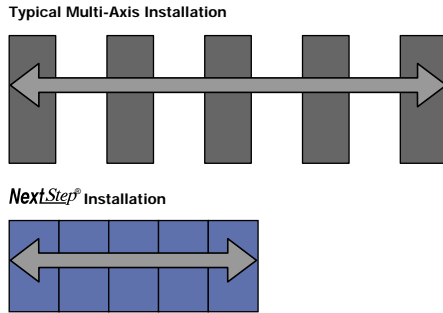

Figure 1. The latest technology in power electronics allows multiple NextStep® drives to be mounted side-by-side for the most efficient use of panel space.
- The NextStep®'s efficient design allows it to be stacked together dramatically reducing panel space (see Figure 1)
- Compact design and "stackability" minimizes required panel space (see Figure 1)